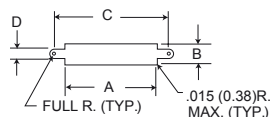
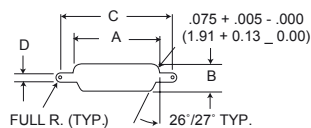

Figure 1
**Figure 3
2. Front mounting is preferred. However, when rear mounting is necessary, use figure 3 for dimensions.
5. Front mounting (Figure 1) and rear mounting (Figure 3) accommodate #2-56 screws.